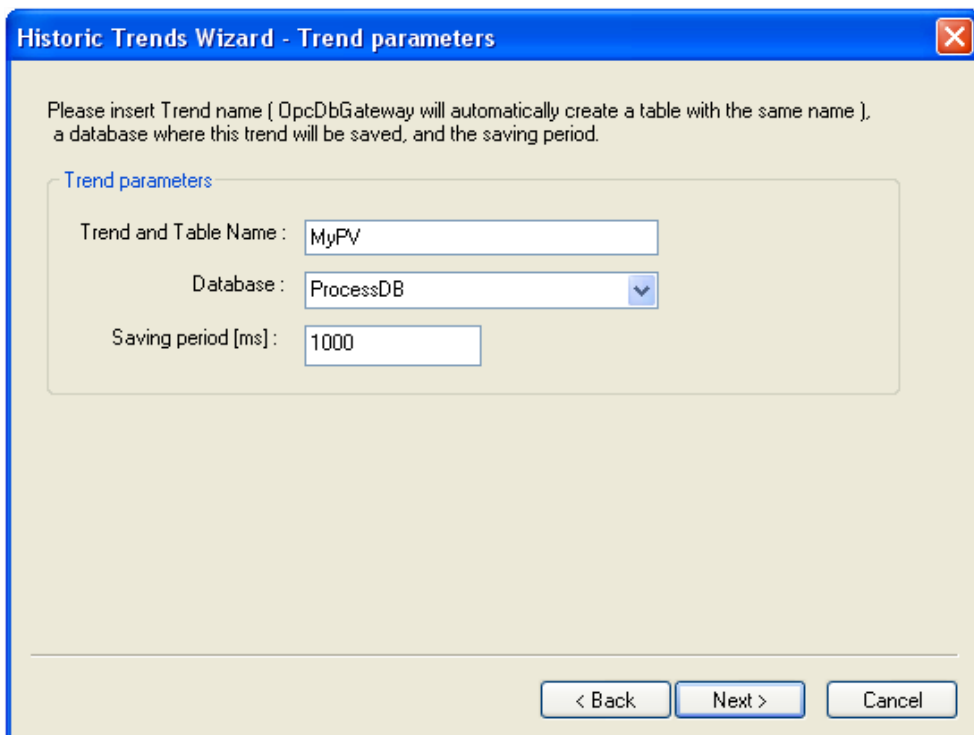

Figure 7: The third wizard page: HTW – Trend parameters.
4. In the third **Trend parameters** wizard page, type a symbolic name to the field **Trend and Table name** (e.g. MyPV). (Please see Figure 7)
5. Select a target database in the **Database** combo-box (Please see Figure 7).
6. Set a period for storing of the real-time process data values to the database. Then, click on **Next** button (Please see Figure 7).